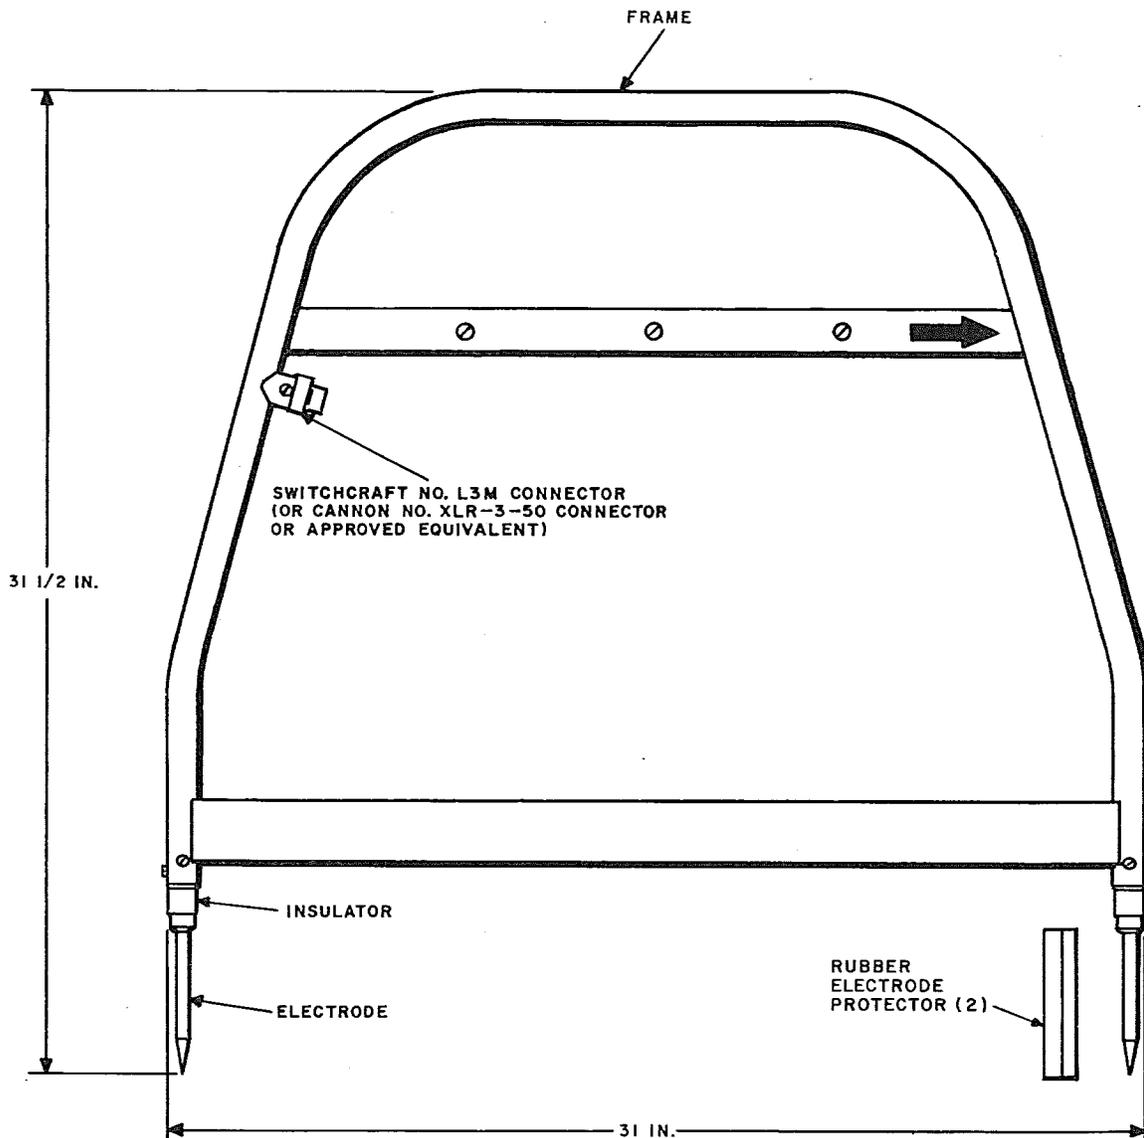

Fig. 3—Probe Assembly
2.03 When the B ground probe is not in use, care shall be taken to keep electrode tips covered with the rubber protectors provided. (See Fig. 3.)
3.01 The frame of the probe is made of aluminum plate and tubing (Fig. 3). The open ends of the tubing provide the support for two stainless steel electrodes, insulated from the frame by phenol fiber insulators. Each electrode is connected to the Switchcraft No. A3F connector by internal wiring. The lower cross member provides the employee a means for driving the electrodes into the ground. The upper member provides a support for the associated test equipment. A B-828769 probe cord assembly is provided to connect the probe to the input of the 147-type amplifiers.